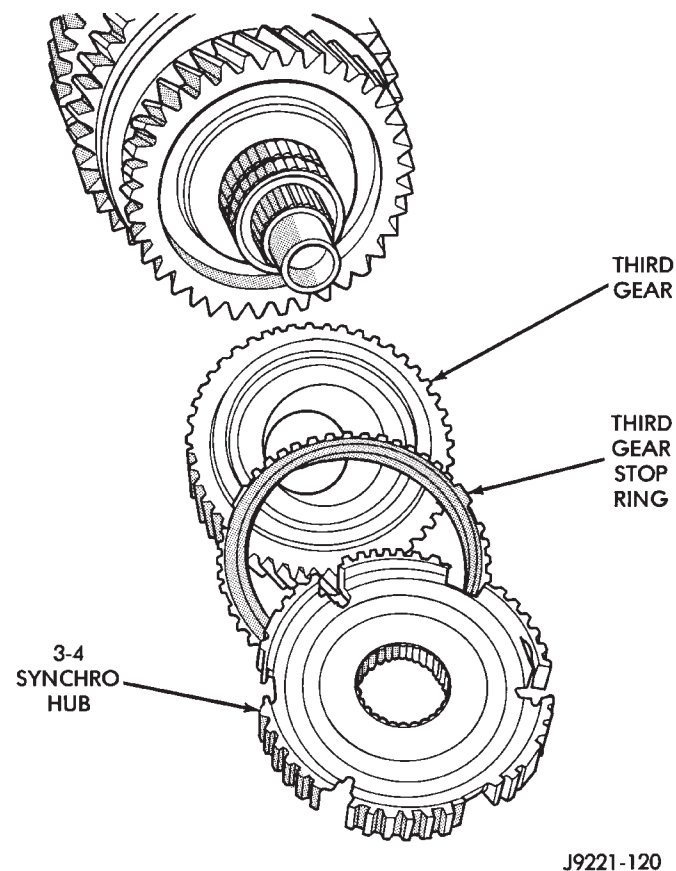

Fig. 59 Third Gear, Stop Ring, And 3-4 Hub Removal
- (1) Remove drive gear thrust bearing from end of mainshaft, if not previously removed.
- (2) Remove 3-4 synchro hub, third gear stop ring and third gear as an assembly (Fig. 59). It is not necessary to disassemble the synchronizer components unless worn or damaged.